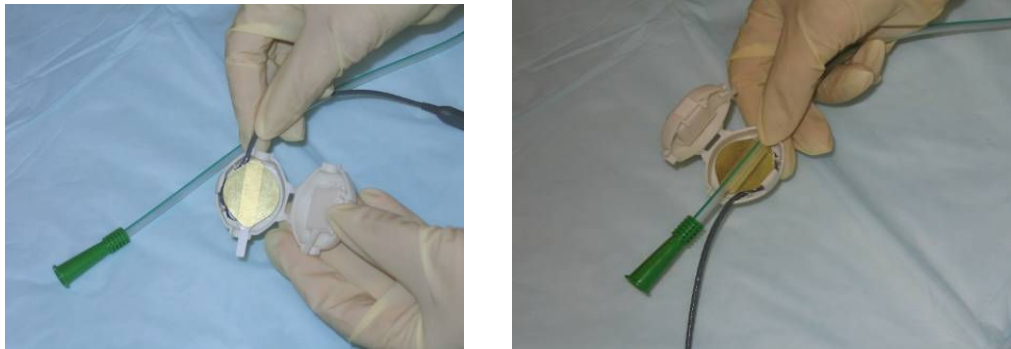

Figure 1: Actuator placement
1. Remove actuator from its package and place it at the distal end of the NG tube (see Figure 1).